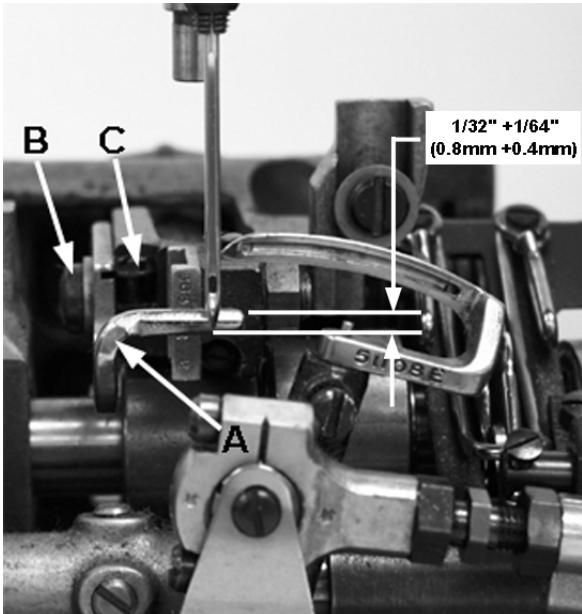

Fig 13
Rotate handwheel in operating direction to position looper point to just enter the scarf of needle. At this time the needle guard (A, Fig 13) should be at its extreme end of forward travel. Set the guard front to back as close as possible without touching the needle. Guard should be set as low as possible, yet have its vertical face approach above the needle point $1/32" +1/64"$ (0.8mm +0.4mm). To move the needle guard forward or backward, loosen the screw (B), move needle guard as required, and retighten screw. To raise or lower needle guard, loosen screw (B), and turn screw (C) clockwise to lower needle guard or counterclockwise to raise it. Retighten screw (B) after guard is properly set.